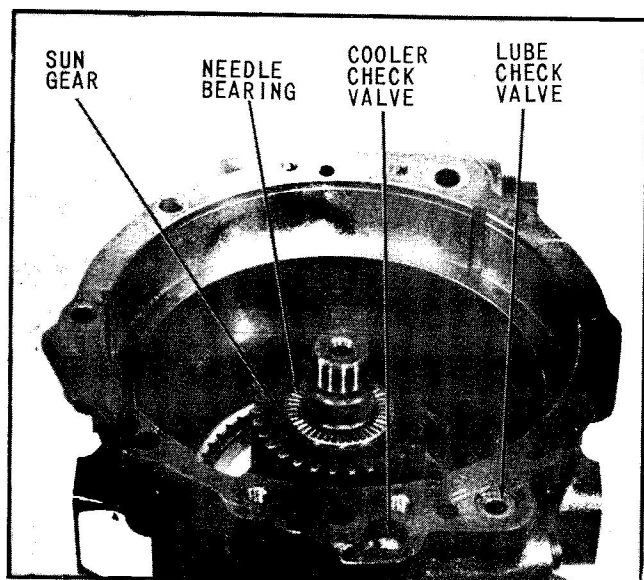

Fig. 45 Install Needles on Sun Gear
9. Position the assembled parts on end on coupling and install the thrust needles on front face of sun gear, (Fig. 45).